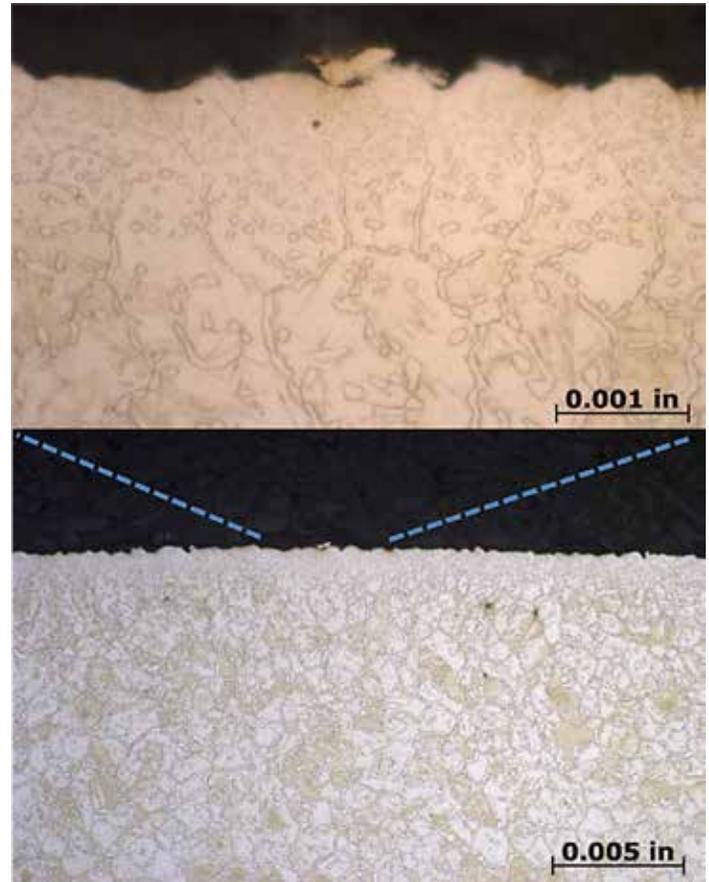

Figure 1: Grain boundary carbides formed in Ferrium S53 steel during carburization.
**O**ne common goal for a wide range of industries has been to increase power density in shaft and gear components. The steel producing industry responded with high strength steels containing elements such as chromium, vanadium, and molybdenum. While these elements impart a great deal of strength, they also bring the propensity to form carbides during carburizing processes. While gas carburizing has been the main source of carburizing for decades, these types of steels are difficult to gas carburize due to the high amounts of carbides that can form during the process. The formation of these alloy carbides then retards carbon diffusion by reducing the effective carbon gradient.[1] Figure 1 shows excessive carbide formation and networking in Ferrium S53, an extremely difficult to carburize alloy.
The thermal conductivity of Inconel 600 can be determined from the literature, so that the only remaining variable to determine is the heat transfer coefficient. We also must determine the cooling rate at 705°C. The cooling rate at 705°C is determined from the cooling curve from your supplier, using an ASTM D6200 Inconel 600 probe. Four examples will be used (Figure 1). The cooling rates at 705°C are shown in Table 2.
Figure 1: Typical cooling curves of a fast, medium, and slow quench oil compared to water. Oils were tested at 60°C, while water was tested at ambient temperature.